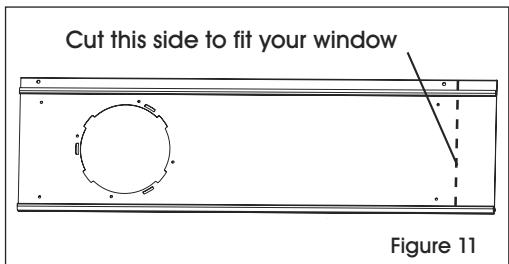

Figure 11
3. Cut the adjustable window slider kit if the width of window is less than 26.6". (See Figure 11)